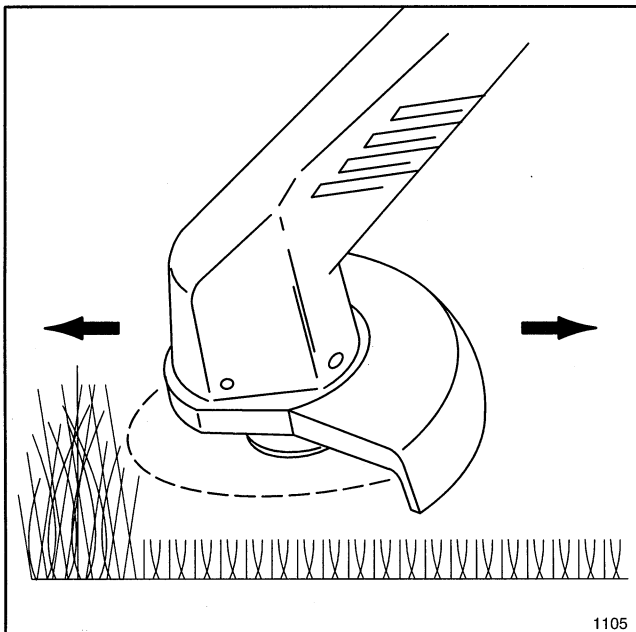

Figure 13
4. Slowly move unit in and out of area being cut, maintaining unit at desired cutting height. This can be either a forward-backward or side-to-side motion as indicated (Fig. 13 & 14).